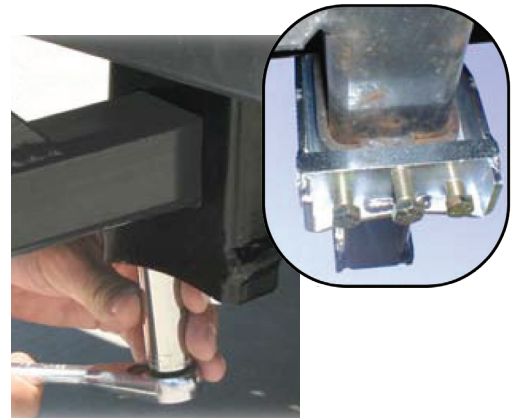

Figure 4-7
1. Loosen the bolts on the anti-tilt lock bracket. There should be grooves where the bolts were tightened against the hitch receiver. *See Figure 4-7.*